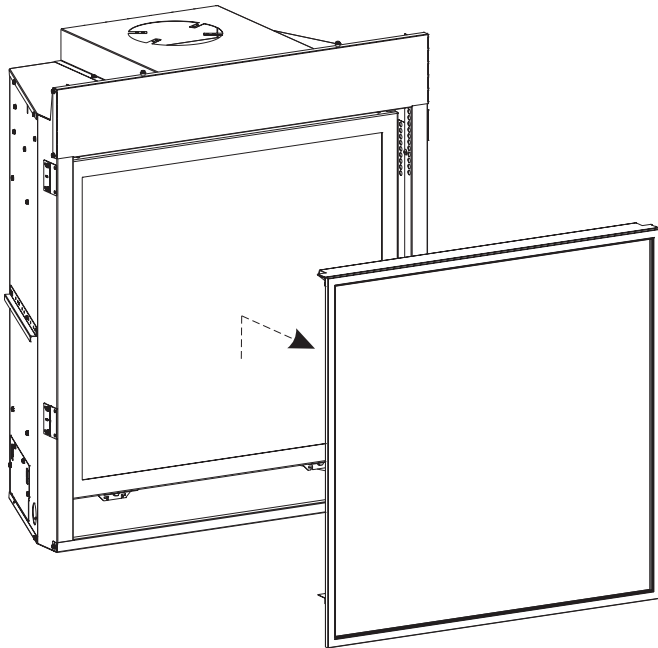

Figure 4
- 1a. **(Post 2016)** Make sure power and gas are turned off prior to any removal. Lift barrier screen assembly and pull away from the unit. See Figure 4.